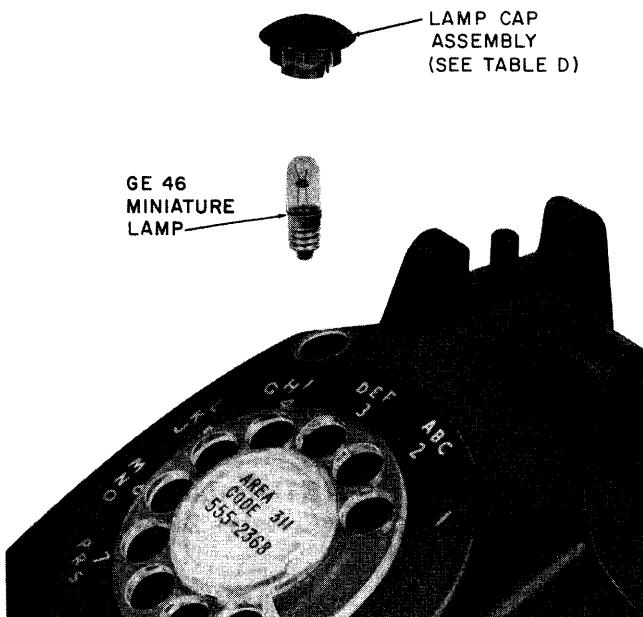

Fig. 12—500H (MD) Telephone Set, Lamp Assembly
- (1) Remove housing from set.
- (2) Remove cap (Fig. 12) from housing by removing screw and clamp located inside housing assembly, discard cap.
- (b) **Dial Light:** To remove, turn lamp cap and lamp counterclockwise (Fig. 12) and lift out.